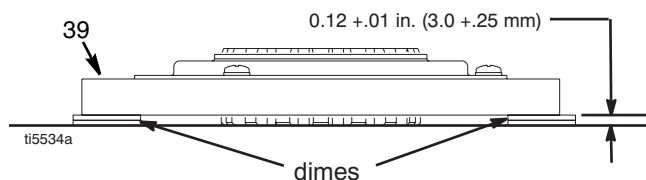

FIG. 8
1. FIG. 8. Lay two stacks of two dimes on smooth bench surface.
2. Lay armature (39) on two stacks of dimes.